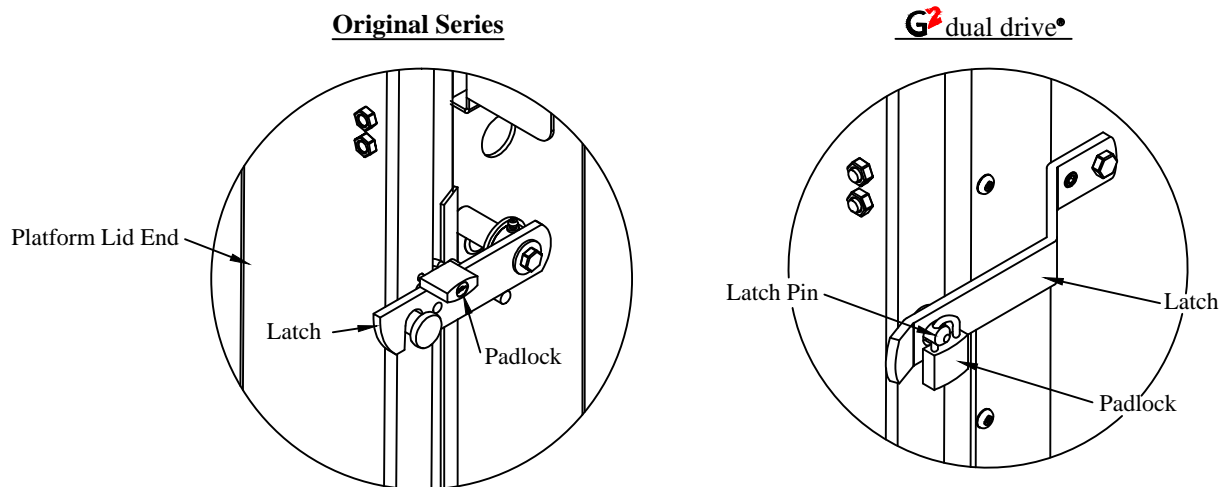

Figure 25: Padlock location.
9. **Lock** the padlock through the hole in the platform or latch pin (Figure 25).